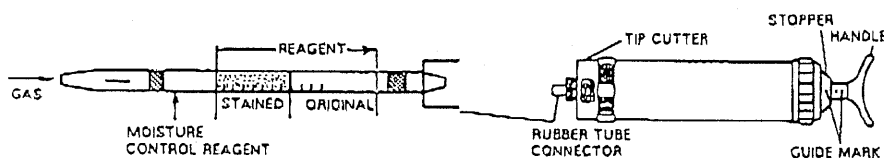

Fig. 1
2. And insert the tube end securely according to the direction of printed arrow mark into the rubber tube connector as shown in Fig. 1.